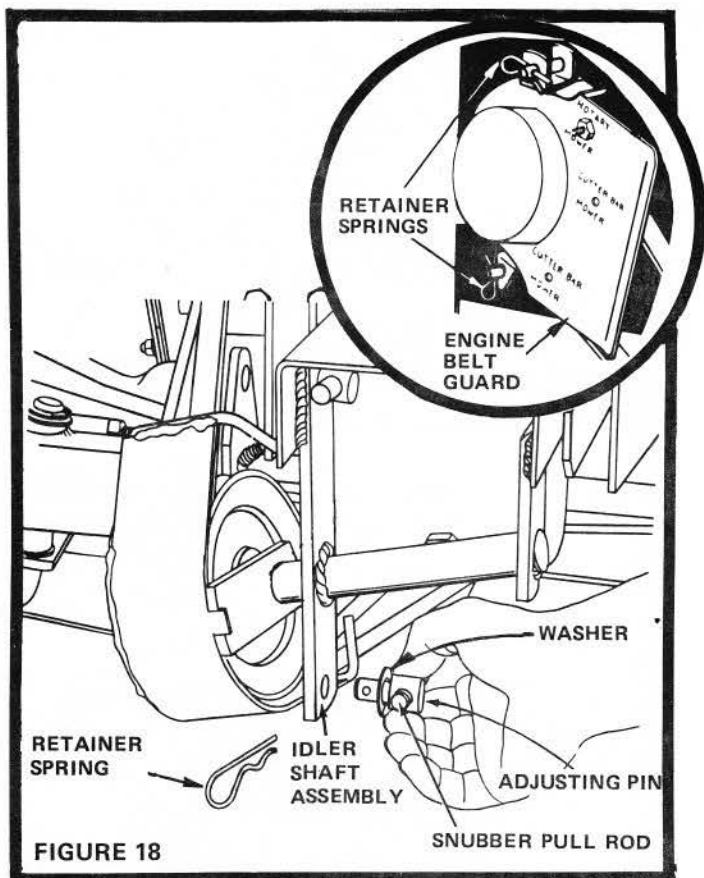
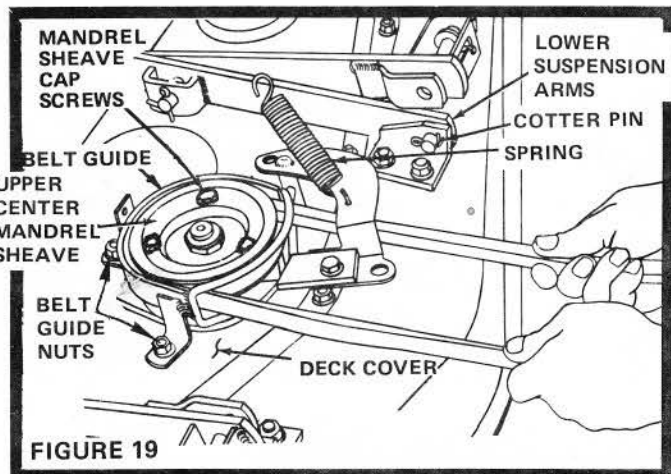

FIGURE 18
FIGURE 19
(Refer to Fig. 18). Remove Retainer Spring from Adjusting Pin on Snubber Pull Rod in Idler Shaft Assembly. Remove Adjusting Pin from hole.
1. Unhook Spring from rear belt guide bracket of Belt Guide (Fig. 19).
2. Remove Belt Guide at center mandrel by removing three (3) Nuts and Lockwashers.
3. Remove Nut and Lockwasher from Idler Shaft Assembly and remove Belt Guide (Fig. 19A). Also remove Engine Belt Guard and Belt (Fig. 18).
5. Replace Engine Belt Guard (Fig. 18).
6. Replace Belt Guide and snubber at center mandrel and adjust so that there is 1/16 to 1/8 inch clearance between it and the Sheave. Replace Spring (Fig. 19). Adjust drive belt and snubber refer to page 4, steps 1 thru 8.
2. Unhook Spring from rear of Belt Guide. Remove Belt Guide at center mandrel by removing the 3 Belt Guide Nuts, Lockwashers, and Flat Washers (Fig. 19).